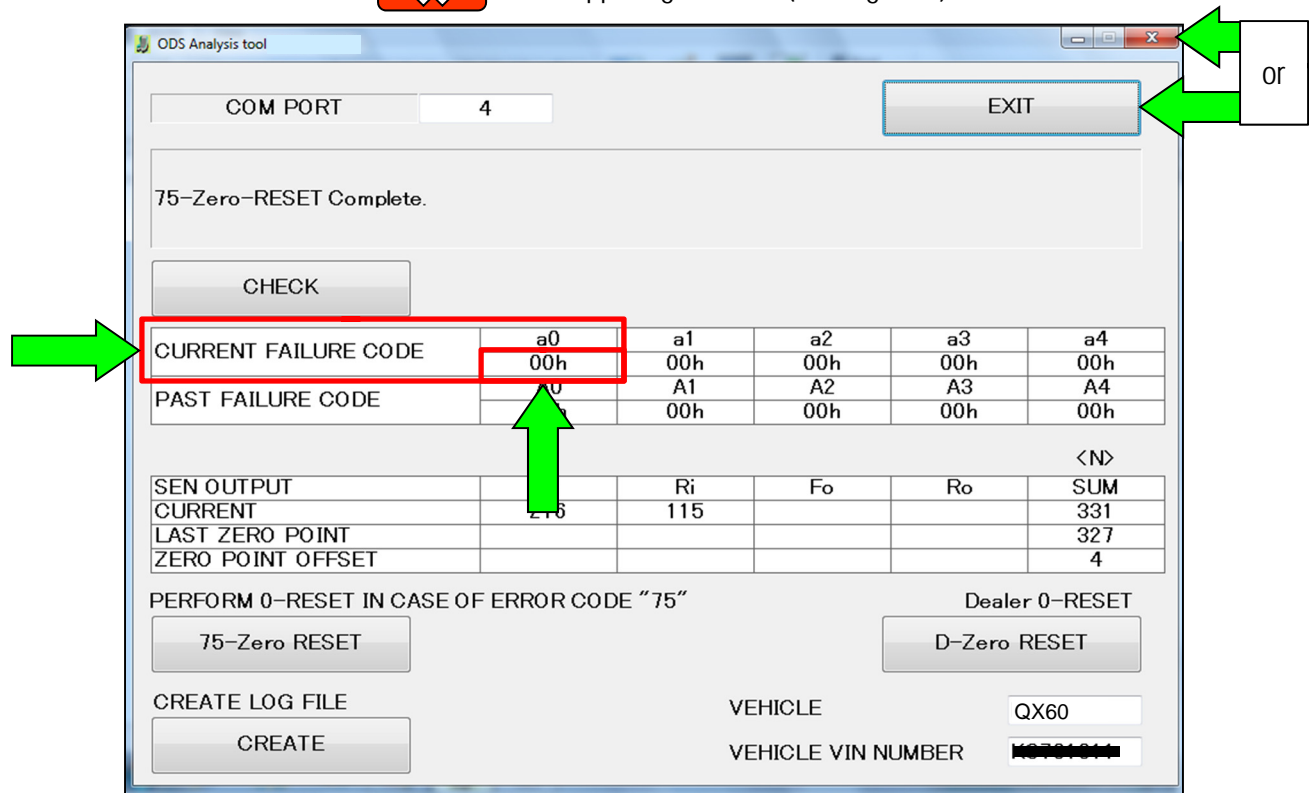

Figure 9
16. When the screen in Figure 9 displays, the 75-zero reset process is complete.
17. Select either **EXIT** or the  in the upper right corner (see Figure 9).